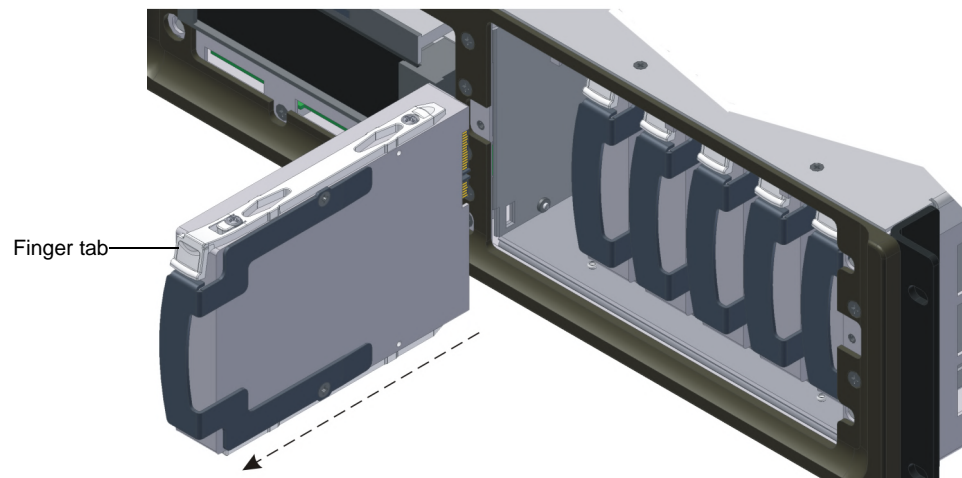

Figure 4-16 Removing the Failed Drive from the DSL100
4. Match the failed drive's number (noted in step 1) with the corresponding numbered internal drive, then grasp the drive's finger tab and slide it out of its slot, as shown in the example in Figure 4-16. The drives are numbered from left to right (1, 2, 3, 4, 5, 6).